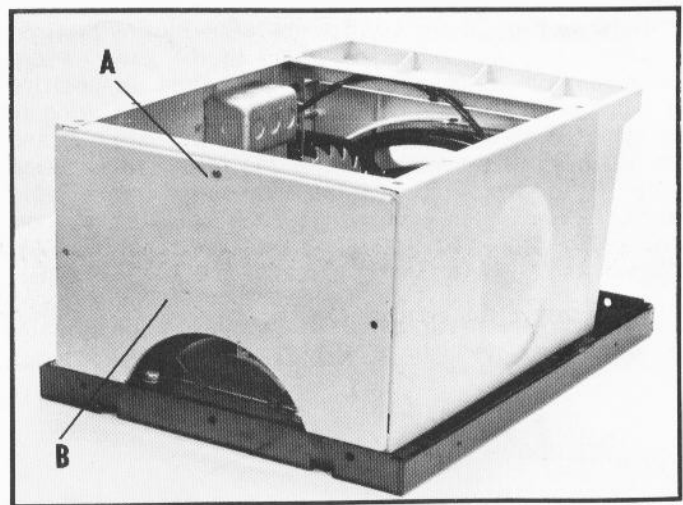

Fig. 6
1. Place the saw upside down on a flat surface, as shown in Fig. 6.
2. Remove screw (A) Fig. 6, that attaches the back panel (B) to the saw cabinet. Lift up and remove back panel (B).